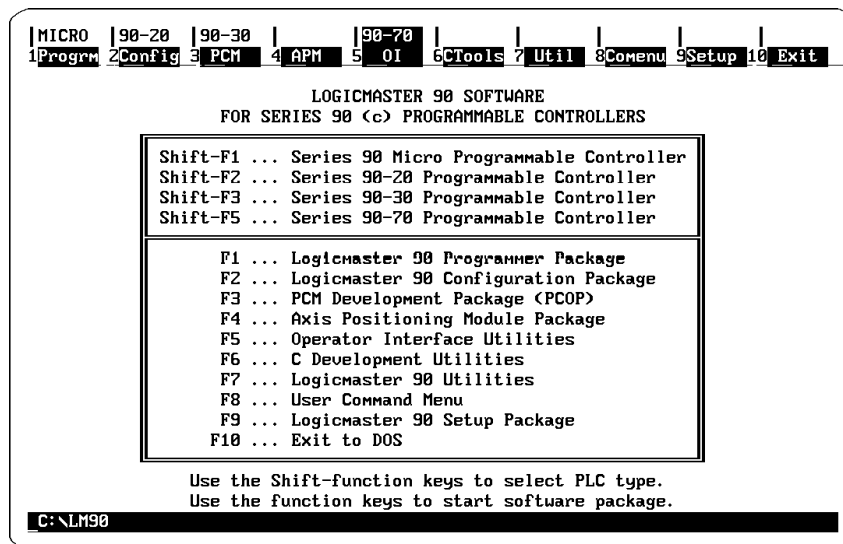

Figure 4-1. Logicmaster 90 Software Main Menu
1. First choose a Series 90-30 or Series 90-70 PLC at the Logicmaster 90 main menu (as shown in Figure 4-1, above) by pressing **Shift+F3** or **Shift+F5**.